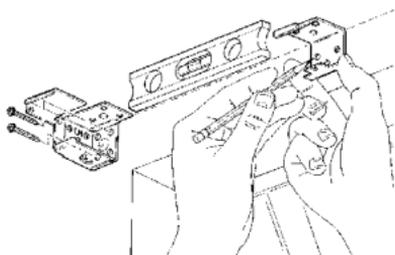

Figure C3
10. Mount the bracket using two of the screws provided. (See Figure C3)
2. Make sure all center support brackets are positioned at the same height and are level with the end brackets. (See Figure C3)
3. Using a pencil, mark the mounting surface through the holes in the back of the center support bracket. For maximum stability, the pencil marks should be made in the top two holes of the center support bracket. (See Figure C3)